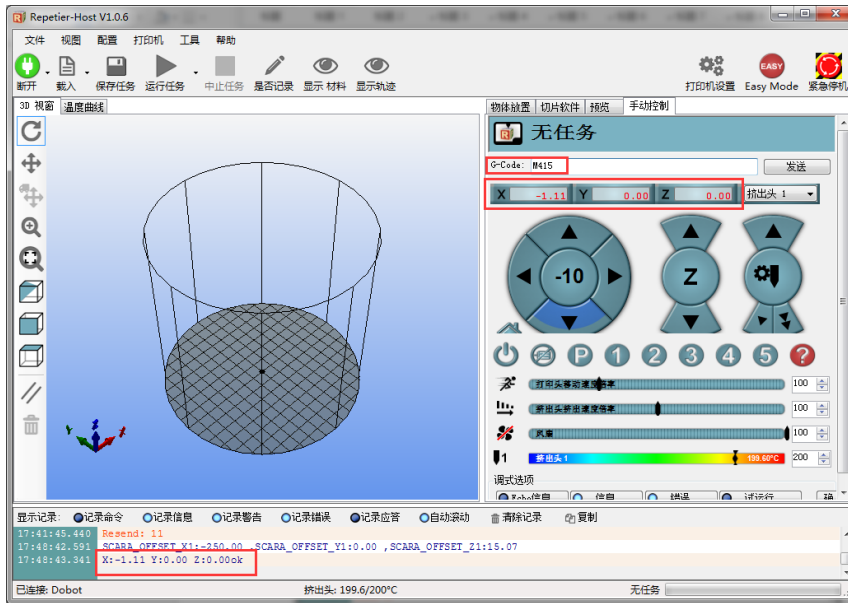

Figure 5.94 Input M415
2. Input command M415 on the G-Code command window and press Enter to get the current coordinates, as shown in Figure 5.94.